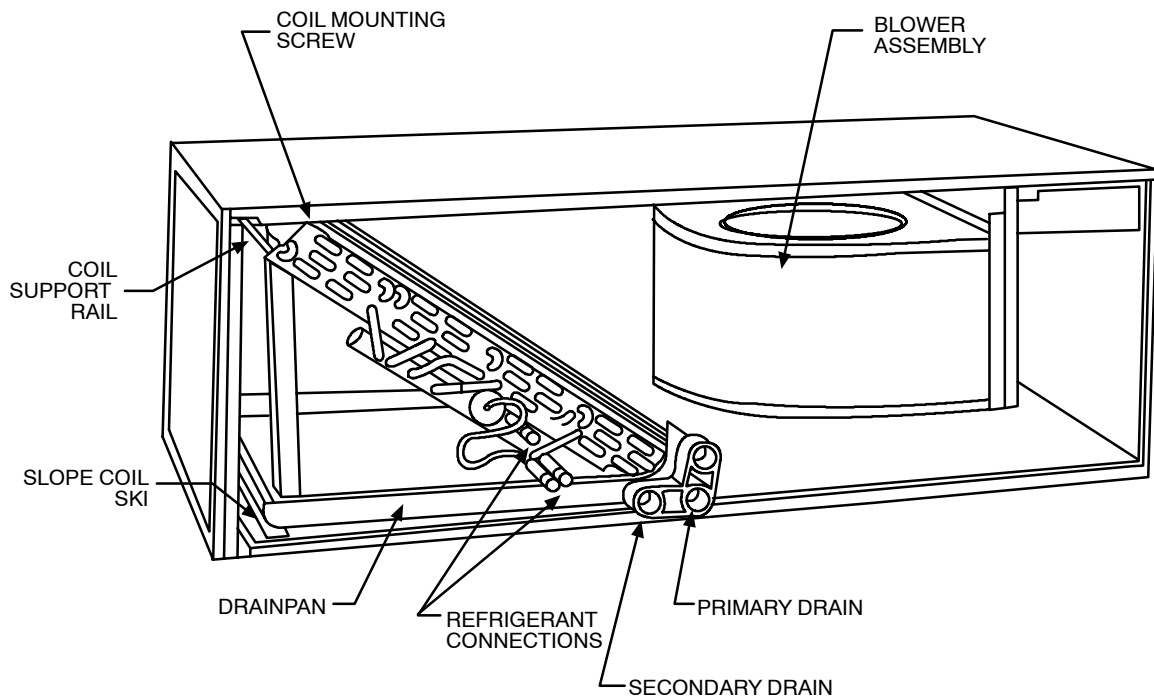

Fig. 5 - Conversion for Horizontal Right Applications Using a Slope Coil
1. Remove blower and coil access panel and fitting panel. (See Fig. 5.)
4. Lay fan coil unit on its right side and reinstall coil assembly with condensate pan down. (See Fig. 5.)